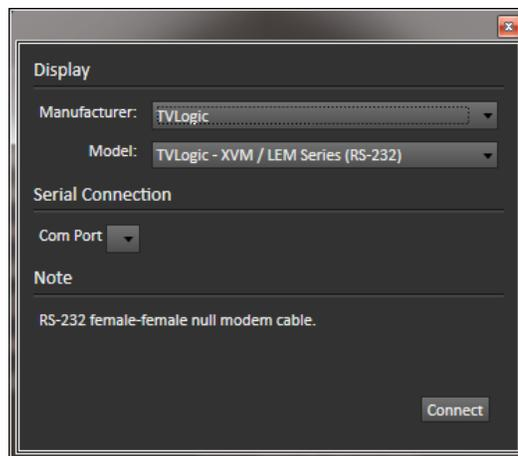

Figure 2. CalMAN Find Display dialog.
- On the *Find Display* dialog (Figure 2), under *Manufacturer*, select “TVLogic.” Under *Model*, select “TVLogic – XVM / LEM Series.”